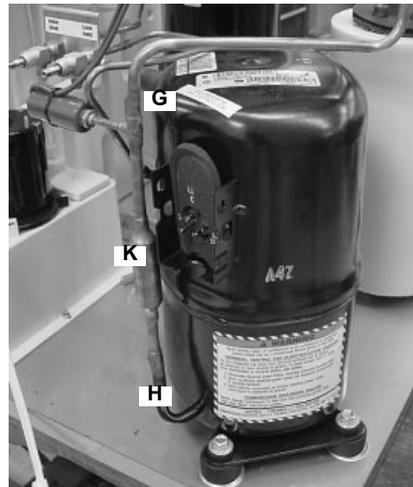

Figure 35.
34. Secure the insulation away from the joints in order to braze the compressor suction inlet (G) and the compressor discharge (H) lines (Figure 35).